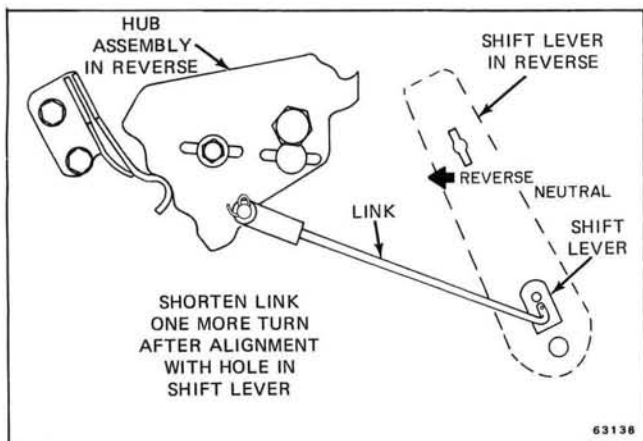

Figure 6-66. Shorten Link One Turn
5. Shorten link one turn more for installation. Slight pressure will be necessary on shift lever when reinstalling link to shift lever. See Figure 6-66.